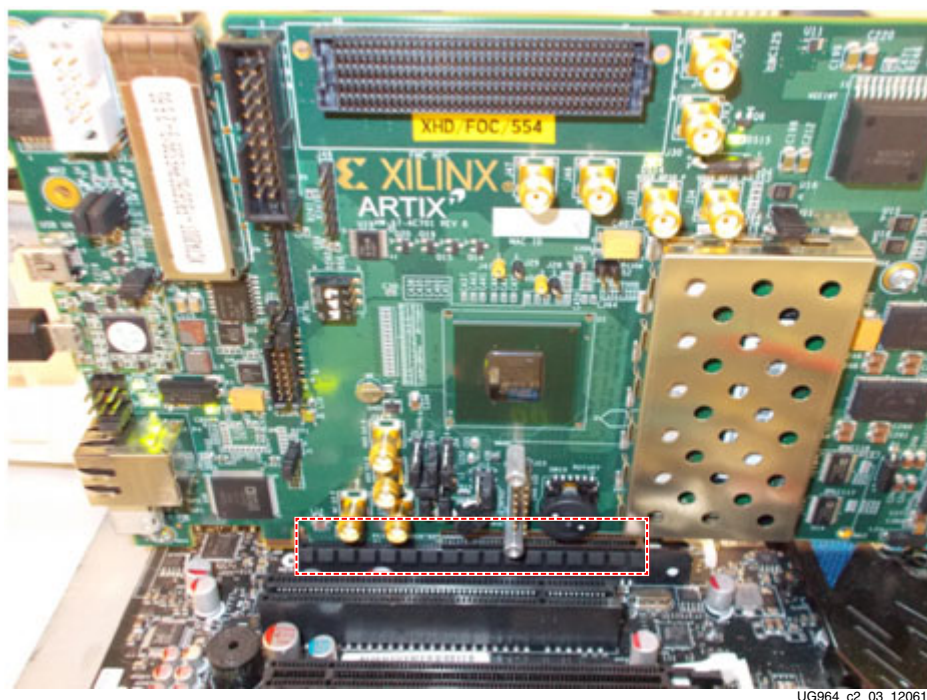

Figure 2-3: AC701 Board Installed in a PCIe x16 Connector
4. Plug the AC701 board into the PCIe connector at this slot (see Figure 2-3).